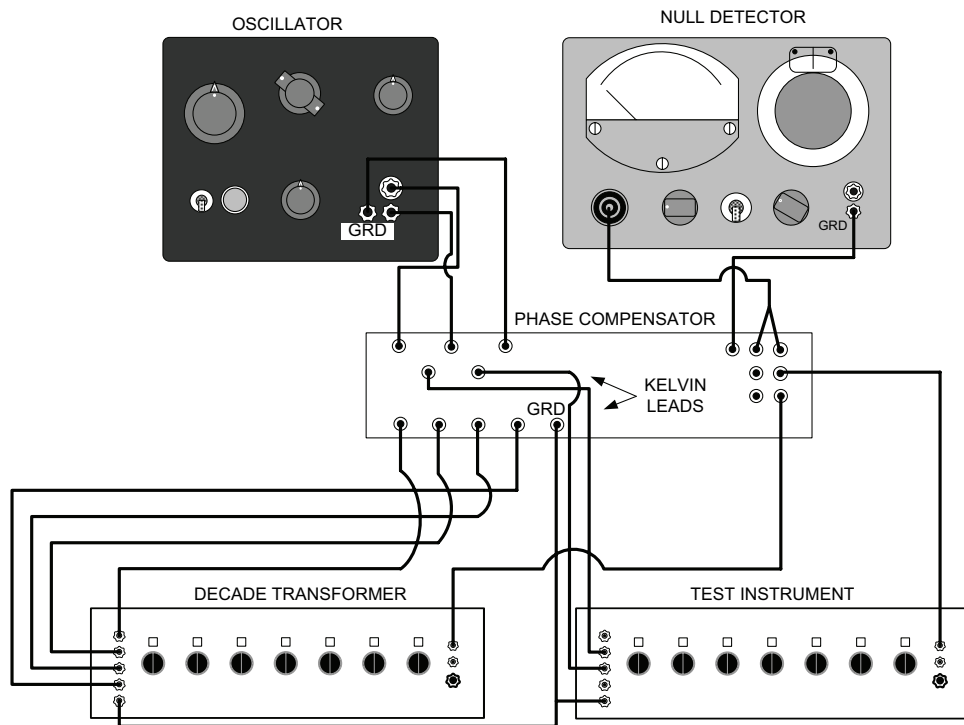
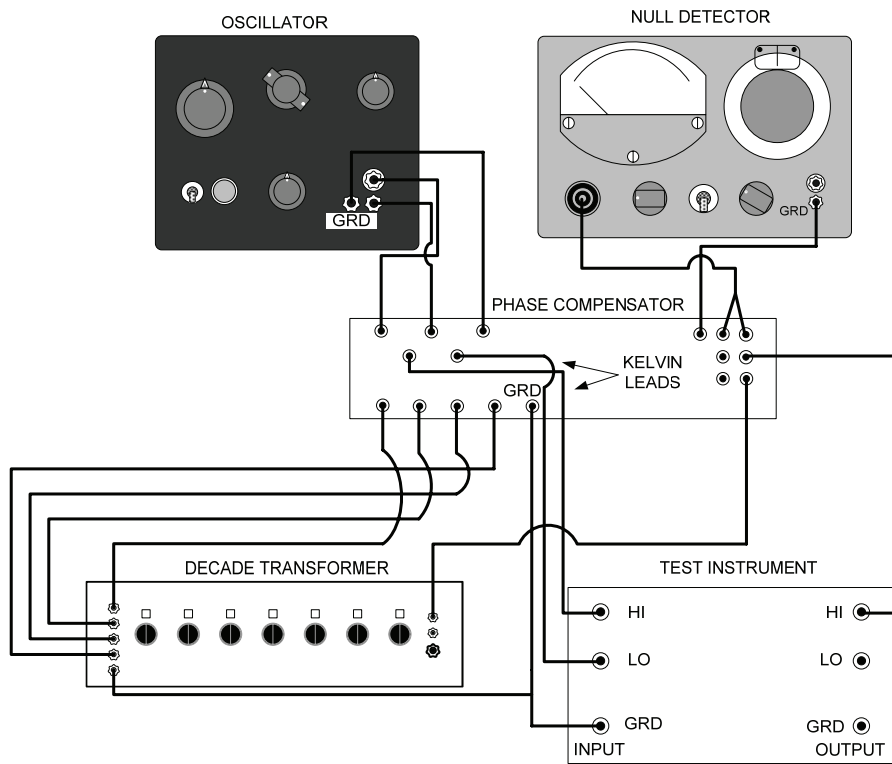

Figure 1. Terminal linearity – equipment setup.
Figure 2. Ratio accuracy – equipment setup.
- a. Connect equipment as shown in figure 1 (for ESI, Model DT72A) or figure 2 (for all other models).